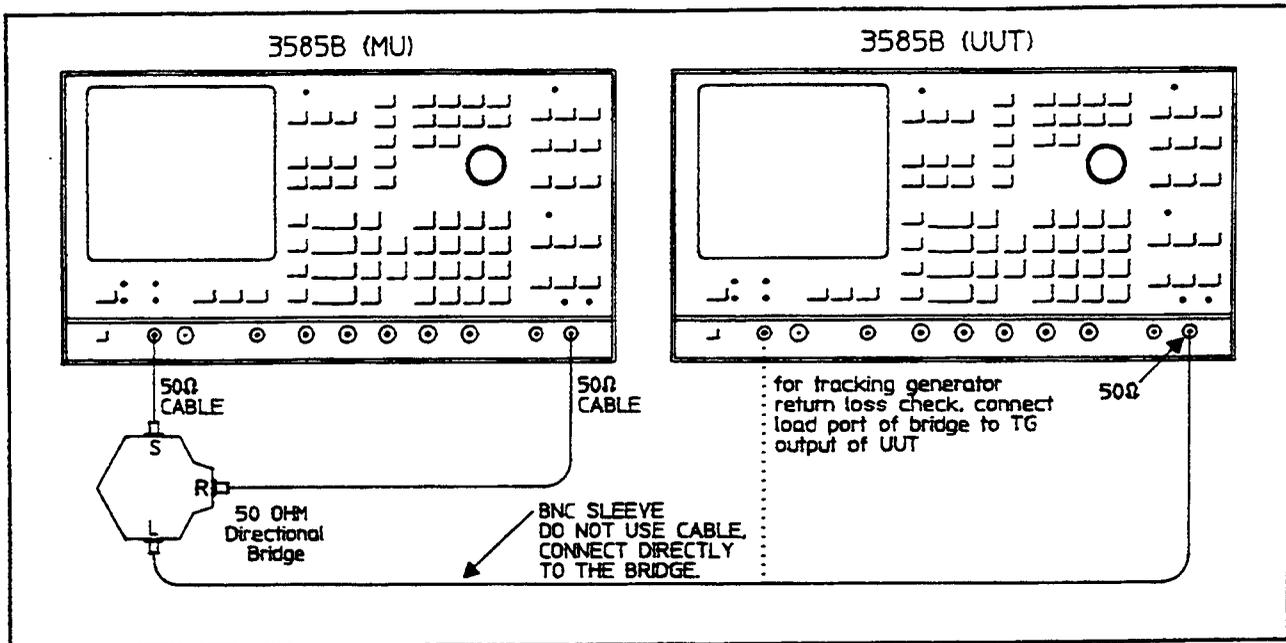

Figure 4-3.
- a. Connect the MU's 50Ω input to the reflected port of the 50Ω directional bridge. Connect the source port of the bridge to the tracking generator output of the MU. See Figure 4-3.